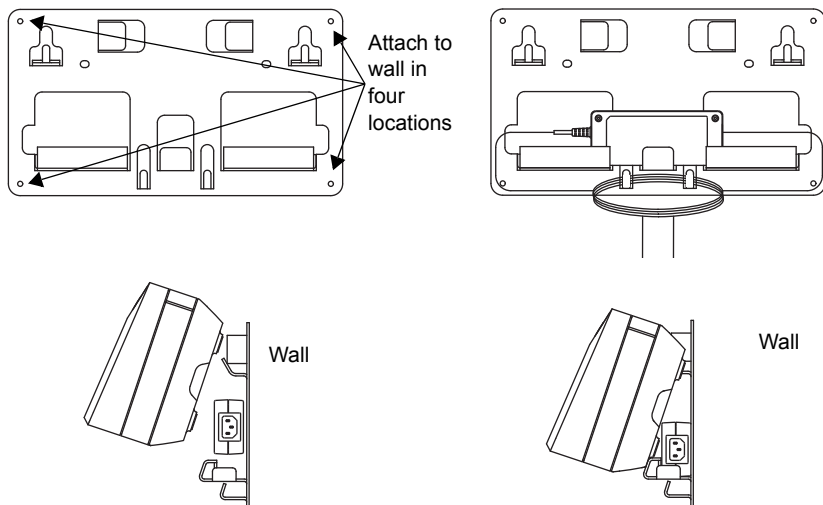

Figure 30: Mounting Multi-Unit Charger to Wall Bracket
4. Hang the Multi-Unit Charger on wall bracket as show in Figure 30.